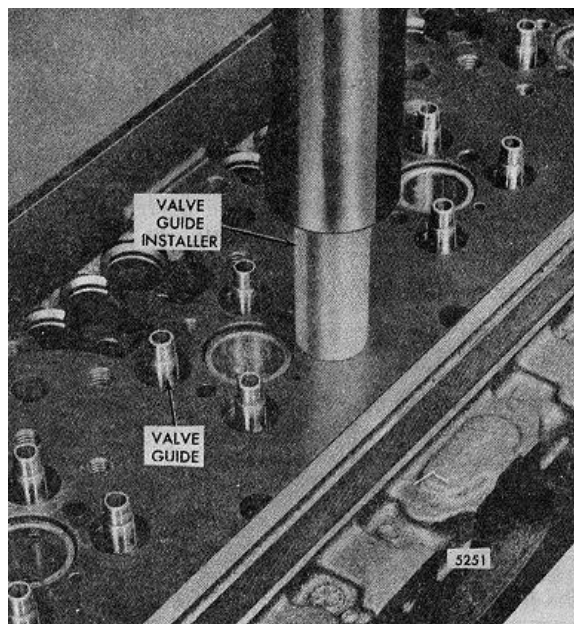

FIG. 9 - Installing Valve Guide
arbor press and install the valve guide (Fig. 9) as follows:
2. Position the valve guide squarely in the bore in the cylinder head and press the installing tool gently to start the guide in place (Fig. 9). Then press the guide in until the tool contacts the cylinder head.